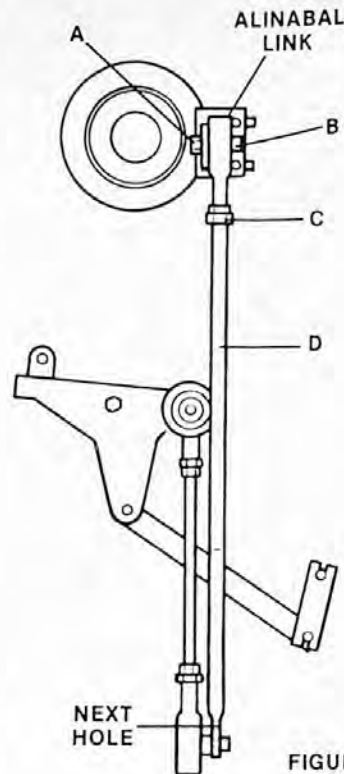

FIGURE 17
3. Loosen lock nut (A, Figure 17).
4. Remove lock nut (A, Figure 17).
5. Remove cap screw (B, Figure 17).
7. If alinabal link has no more adjustment move rod (D, Figure 17) to next hole. Should rod already be in top hole the brake pads must be replaced.